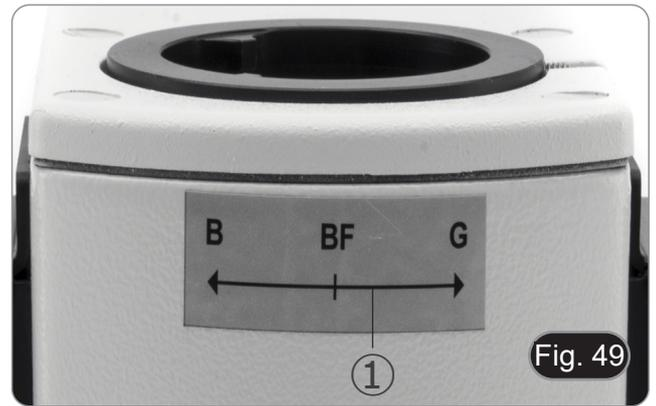

Fig. 49
2. Move the filter selector ① to one of the 2 available positions until the click stop. (Fig. 49).